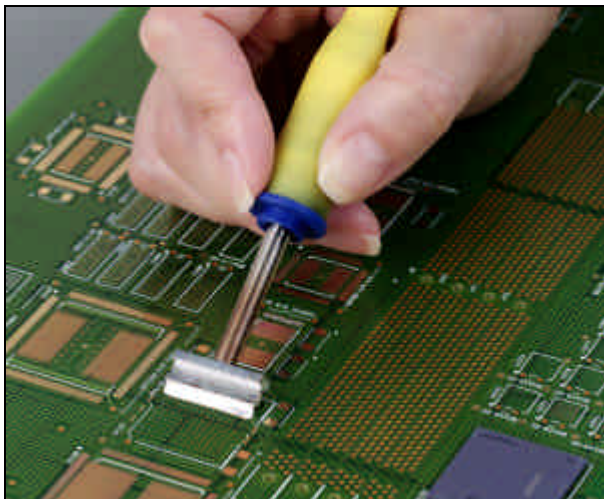

Figure 24: Removing Excess Solder
1. Remove Excess Solder With Iron (Fig. 24)